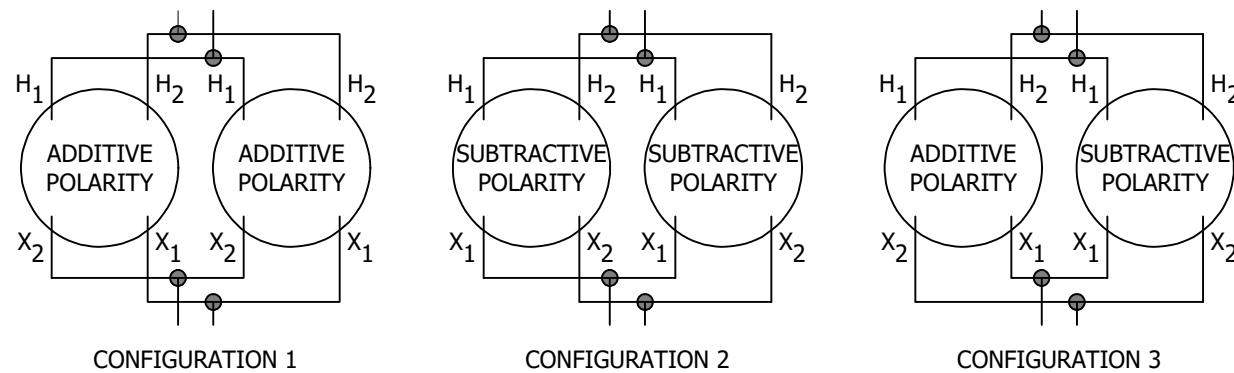

FIGURE 3
- VIII. IF GREATER CAPACITY IS DESIRED, TWO TRANSFORMERS OF THE SAME OR DIFFERENT KVA RATINGS MAY BE CONNECTED IN PARALLEL. SINGLE PHASE TRANSFORMERS HAVING EITHER ADDITIVE OR SUBTRACTIVE POLARITY MAY BE PARALLELED SUCCESSFULLY IF THEY ARE CONNECTED AS SHOWN IN FIGURE 3 AND THE FOLLOWING CONDITIONS EXIST: